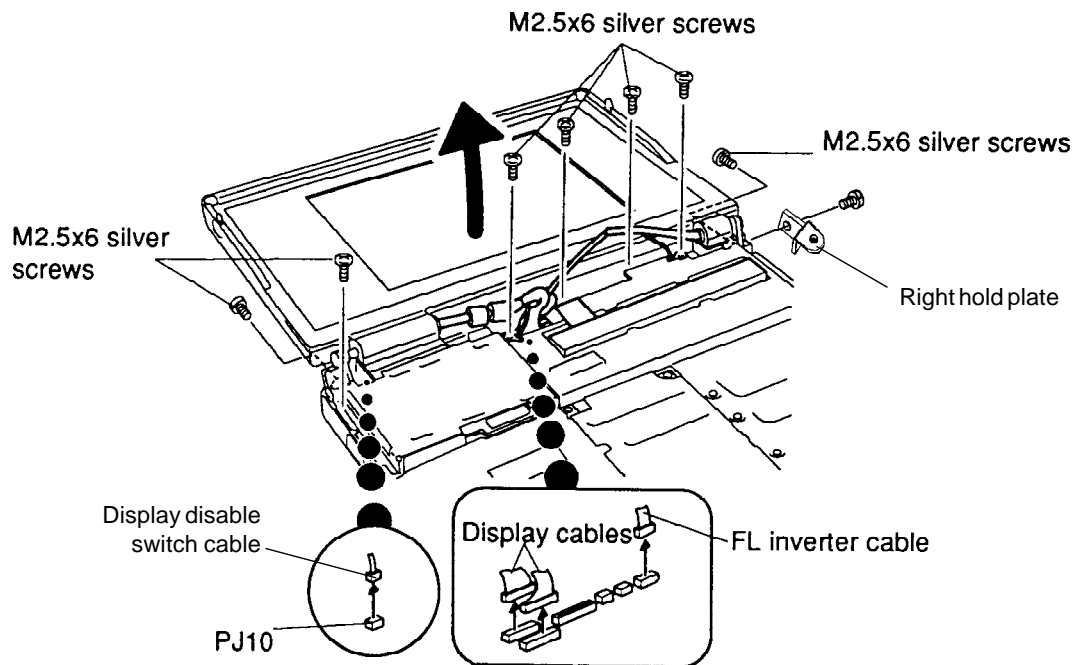

Figure 4-18 Removing the Display Assembly
To remove the T4500/T4600 Family computer's display assembly, follow the steps below and refer to Figure 4-18.
3. Disconnect the **two display cables** and **one FL inverter cable** (Figure 4-18).
4. Remove the tape securing the **display disable switch cable** and disconnect it from the system board (Figure 4-18).
5. Remove the **four M2.5x6 silver screws** behind the status indicator panel securing the ground cables (Figure 4-18).
6. Remove the **four M2.5x6 silver screws** on the back of the computer and on the display hinges which secures the **right hold plate** and display (Figure 4-18).
7. Lift off the display assembly (Figure 4-18).
To install the computer's display, follow the steps below and refer to Figures 4-18 through 4-20.
2. Replace the **four M2.5x6 silver screws** on the back and inside hinge areas of the computer to secure the display assembly to the chassis (Figure 4-18).